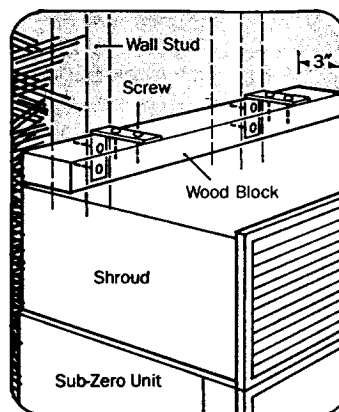

Figure 11
- 2) Locate the proper height to clear the unit. The space along the top of the Sub-Zero and the bottom of the wood block **must not be greater than 1/4"**. See Figure 11.
- 3) Position the wood block over the unit and secure it using the screws and "L" brackets provided. Make sure screws extend a minimum of 7/8" into each of the two wall studs. The wood block must extend a minimum of three inches over the unit. See Figure 11.